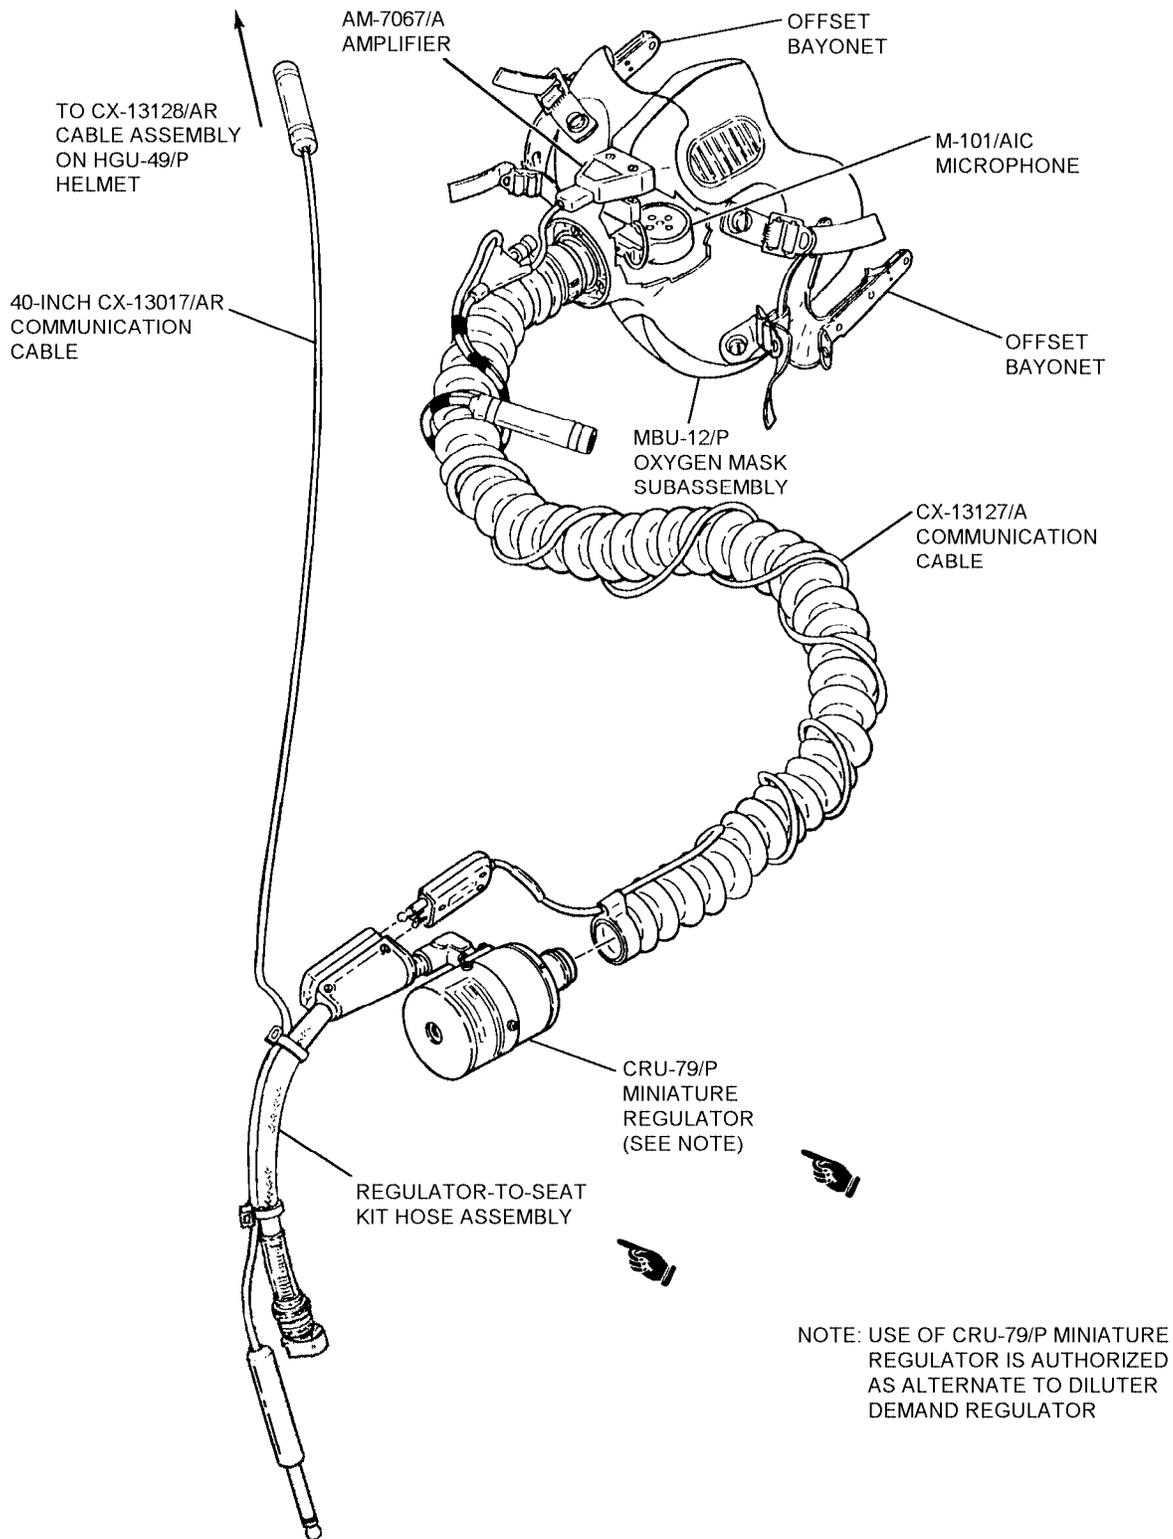

Figure 5-2. MBU-15/P Oxygen Mask Assembly (S-3 Aircraft)
5-8. The MBU-15/P Oxygen Mask Assembly. The MBU-15/P oxygen mask assembly is designed for use in the S-3 aircraft where the mask is used interchangeably with a boom microphone, and an audio amplifier is required for communication compatibility. The MBU-15/P is used with the HGU-49/P and HGU-68(V) helmets incorporating the binaural CX-13128/A and the 40-inch CX-13017/AR communication cables. The 40-inch cable is secured to the regulator-to-seat kit hose. The mask is outfitted with the CRU-79/P series miniature regulator. See figure 5-2.